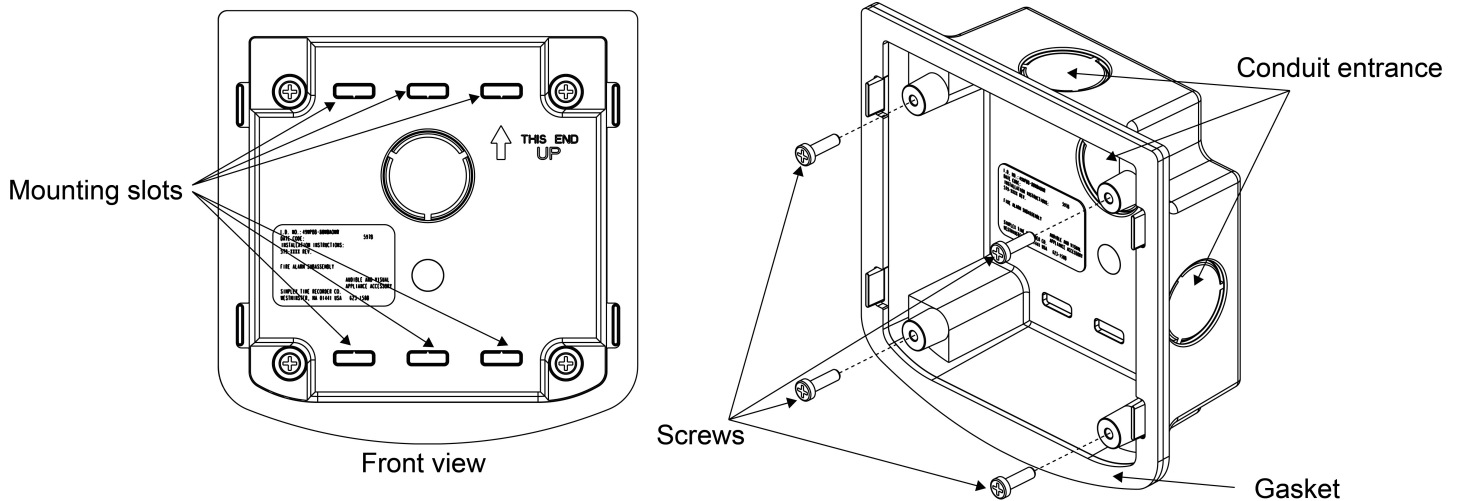

Figure 1: Wall mount Speaker Only (SO) appliance back box
1. Use the mounting slots on the inside of the box to mount the back box to the wall, with the text "THIS END UP" at the top, see Figure 1. The mounting slots are compatible with number 8 screws.
5. Use the four 8-18 1 inch mounting screws on the mounting bosses to secure the back plate to the back box, see Figures 1 and 2.